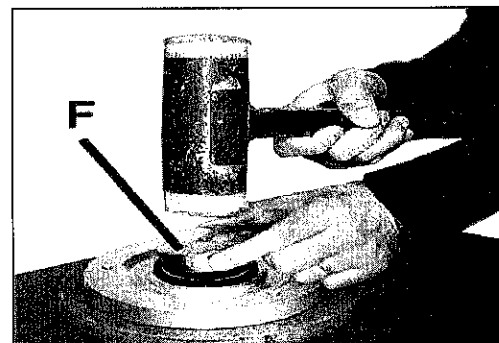

fig. 18
- Position the new radial seal on top of the outer drum separator (the seal spring facing outwards). Insert the seal completely using tool **F** (*fig. 18*).